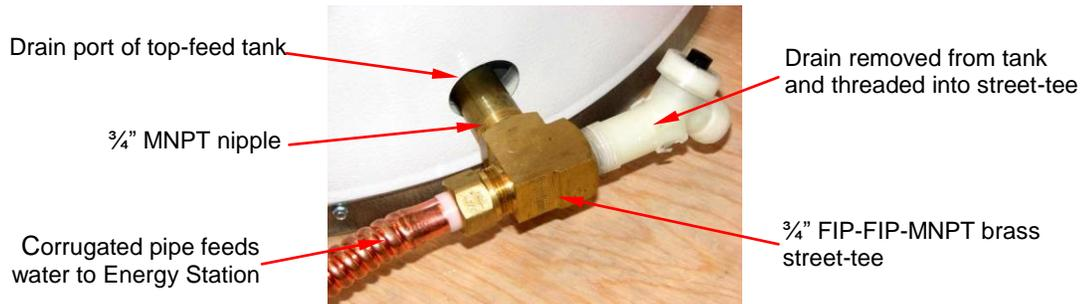
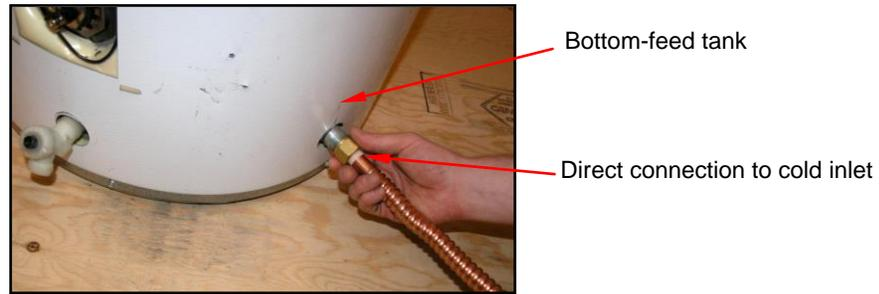

Fig.4.2.4 – Top-feed tank connection includes $\frac{3}{4}$ " MNPT nipple and street-tee.
Fig.4.2.5 – Direct connection for bottom-feed tank.
- [TOP-FEED TANK ONLY]** Remove drain valve from bottom port of tank. Thread supplied $2\frac{1}{2}$ " x $\frac{3}{4}$ " MNPT nipple into bottom port. Thread middle port of supplied $\frac{3}{4}$ " FIP-FIP-MNPT street-tee onto nipple and tighten such that MNPT points to front of tank where Energy Station will be mounted (*Fig.4.2.4*).
- [TOP-FEED TANK ONLY]**. Thread removed drain valve into remaining FIP port of street-tee and tighten (*Fig.4.2.4*). If plastic is damaged, a metal replacement is recommended.
- With Energy Station upright (vertical) and corrugated copper pipe straight, thread un-connected end of corrugated pipe onto MNPT port of street-tee on top-feed tank (*Fig.4.2.4*), or directly to cold inlet port of bottom-feed tank (*Fig.4.2.5*). Tighten, but do not over-tighten as gasket may be damaged.